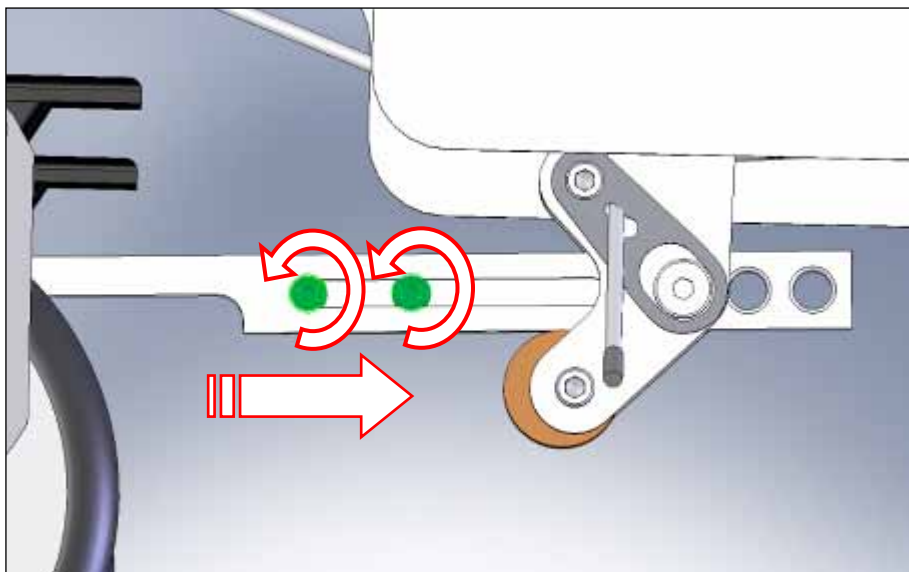

Figure 42
1. Loosen the two socket head cap screws on the docking hook assembly (Figure 42) using a 3/16" Allen key and adjust the hook by sliding it to the shortest position. Tighten one of the screws by hand.